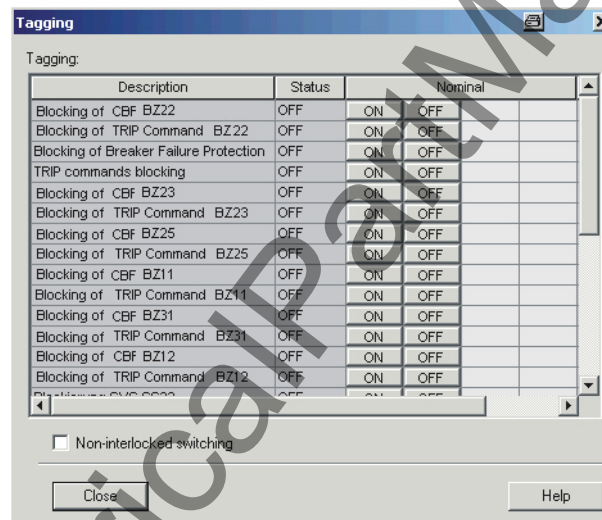

Figure 6-16 Tagging window in DIGSI
- ❑ Double-click **Tagging** in the function selection. The Tagging window opens (see Figure 6-16, page 221).